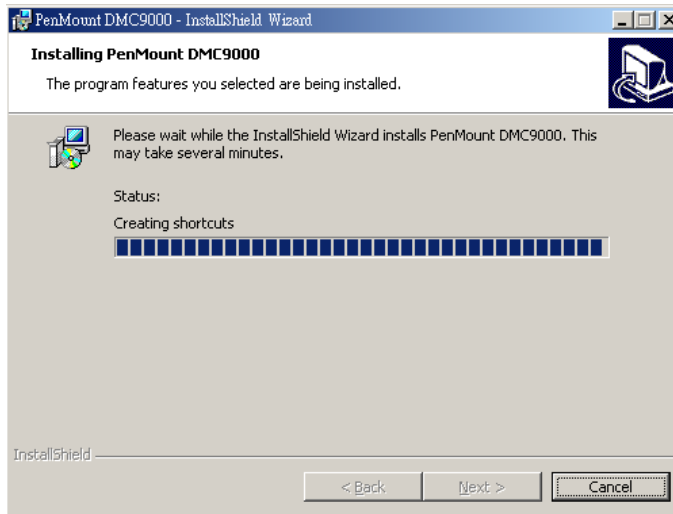

Figure 7-28: Installing PenMount DMC9000
Step 6: Click **INSTALL** to continue. The Installing PenMount DMC9000 screen appears as the program is installed (Figure 7-28).